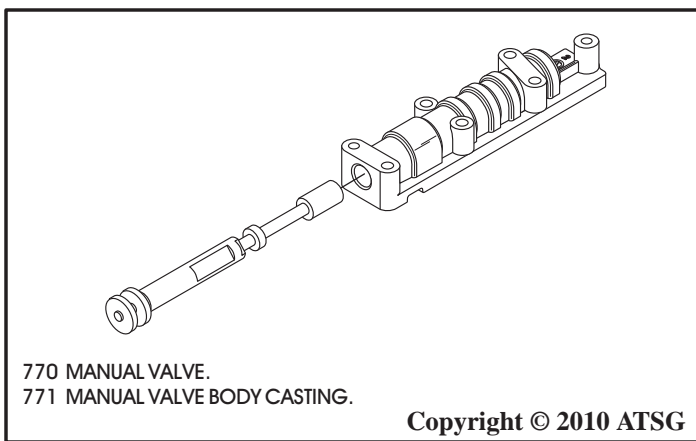

Figure 178
20. Install the manual valve into the manual valve body, as shown in Figure 178.